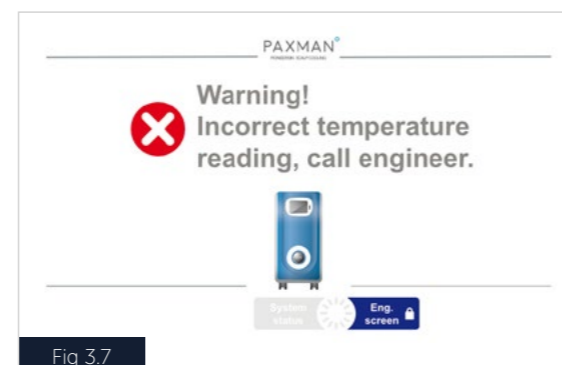

Fig 3.7
- If the temperature is observed to be below -15°C (5°F) or above 45°C (113°F) the treatment pumps will stop. The incorrect temperature reading warning (Fig 3.7) will be displayed and a buzzer will sound. Switch off the system and contact the service provider to arrange for an Engineer to investigate.